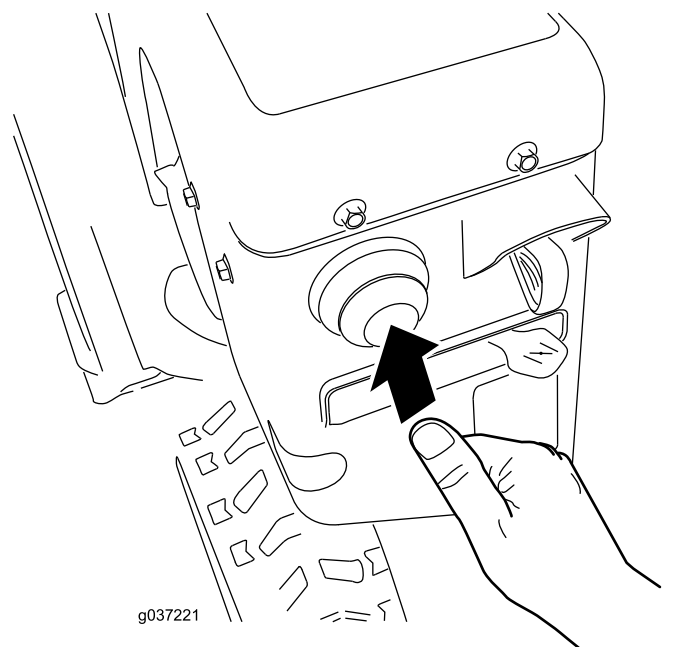

Figure 21
4. Firmly push in the primer with your thumb as indicated by the following table, holding the primer in for a second before releasing it each time (Figure 21).